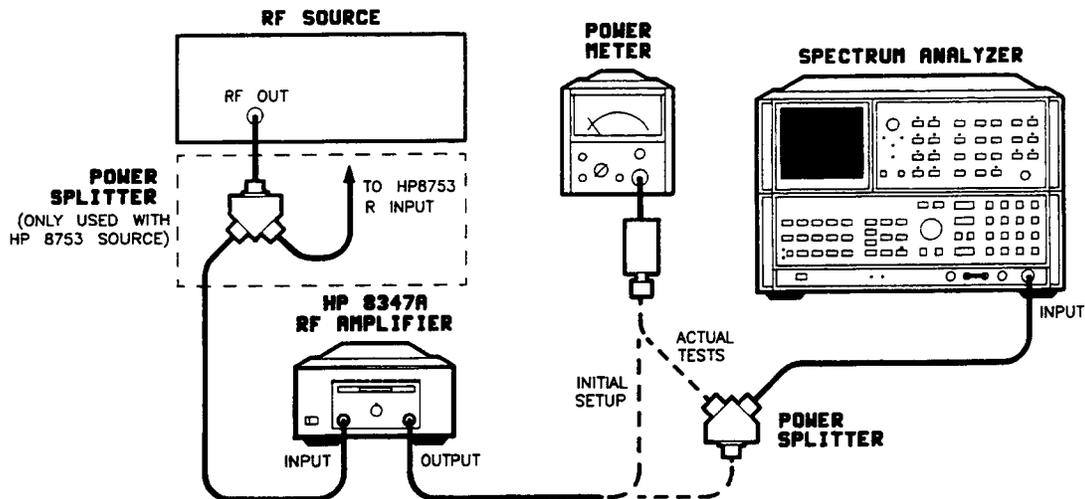

Figure 4-4. Harmonics Test Setup
1. Connect the equipment as shown in Figure 4-4, with the power sensor connected directly to the output of the HP 8347A. Set the source to a nominal output power shown in the table below: